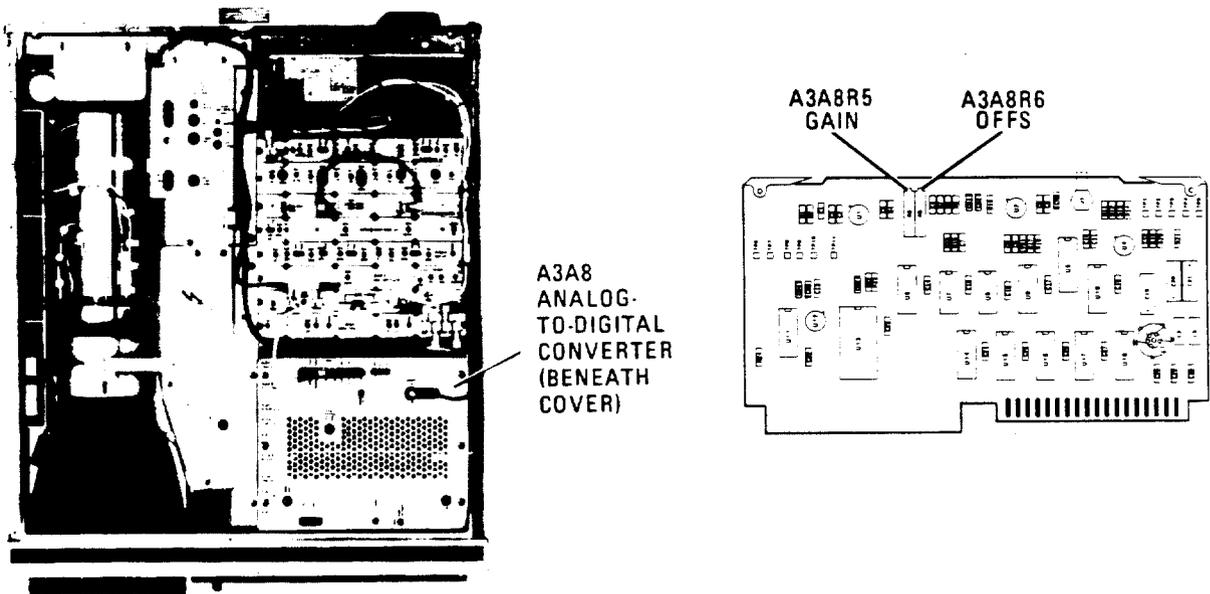

FIGURE 75. LOCATION OF ANALOG-TO-DIGITAL CONVERTER ADJUSTMENTS
- e. Adjust A3A8R6 OFFS until A3A8 TP1 toggles. Center A3A8R6 in the range at which the output on A3A8TP11 toggles. Refer to Figure 75 for location of adjustment.
- m. Adjust A3A8R5 GAIN until the level at A3A8TP11 is at maximum ac voltage as indicated by the DVM (approximately 2.0 Vac). Refer to Figure 75 for location of adjustment.
- f. Adjust A3A8R6 OFFS until A3A8TP11 toggles. Center A3A8R6 in the range at which the output on A3A8TP11 toggles. Refer to Figure 75 for location of the adjustment.